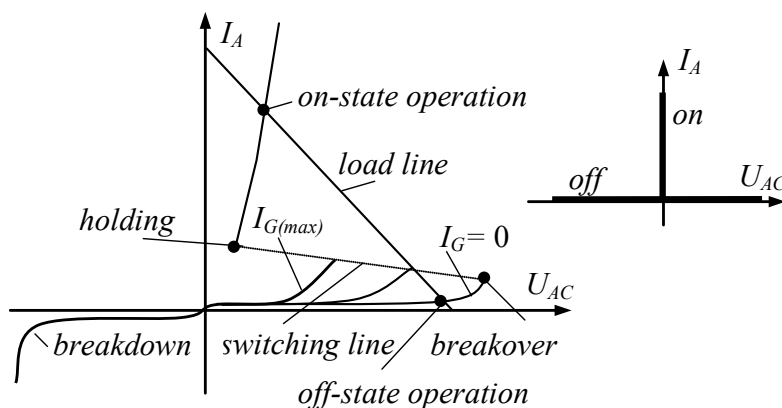

Fig. 1.49
**Output characteristics.** Fig. 1.49 illustrates the output curves and idealized output characteristics of a thyristor. The device has two operating regions: non-conducting and conducting. The current–voltage output characteristics for different gate currents show the forward bias. The output characteristic of a thyristor in the reverse bias is very similar to the same curve of the diode with a small leakage current. Using the same arguments as for diodes, the thyristor can be represented by the idealized characteristic in analyzing the circuit-desired topologies.